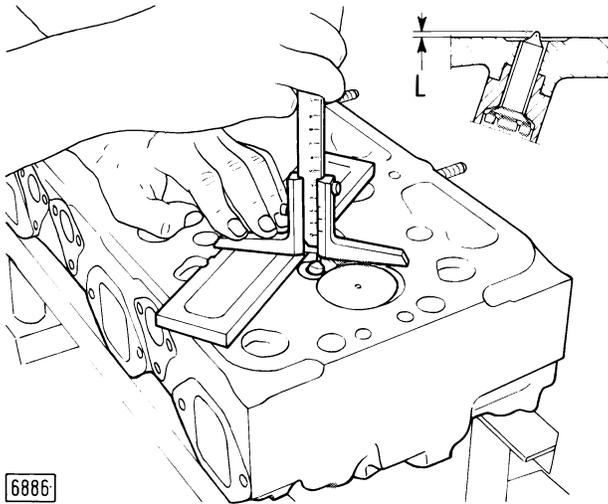

Fig. 10 - Checking injector stand-out from cylinder head.
- Fuel injector protrusion (**L**) is as specified in fig. 10.